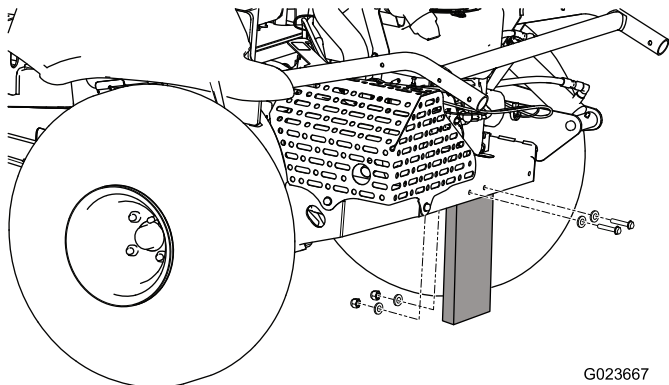

Figure 3
2. Remove the nuts, bolts, and washers securing the shipping board to the rear of the machine (Figure 3).